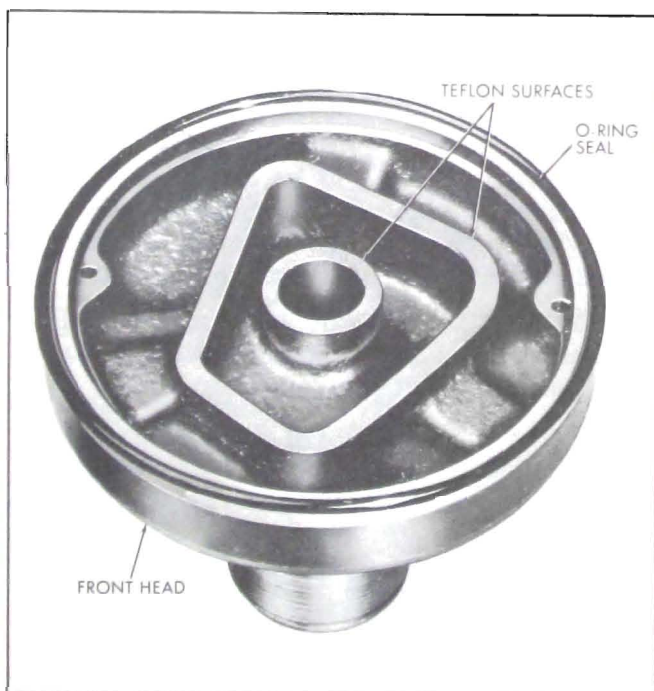

Figure 11-99—Front Head Teflon Sealing Surfaces
7. Examine teflon sealing surface on front head for damage and/or deep scratches. Replace if necessary. See Figure 11-99.